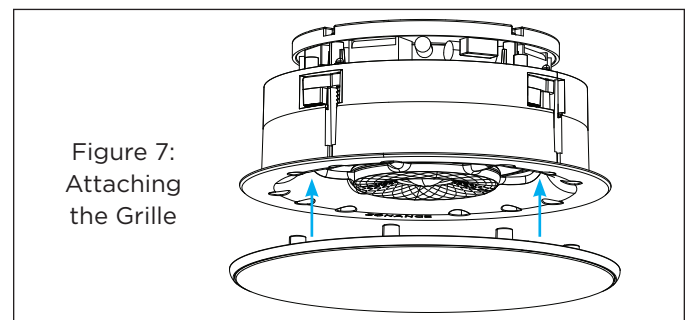

Figure 7:
- The Visual Experience Extreme Grille features Sonance Extreme Post Capture (XPC) technology. XPC holds the grille in place by several small magnets located on the posts of the grille and inside the post holes located on the speaker baffle (see Figure 7). Place the grille against the speaker, aligning the grille posts and post holes. The magnets will pull the grille posts into the post holes and hold the grille firmly in place. When the grille is properly installed, the grille trim should make contact with the mounting surface all the way around the speaker.